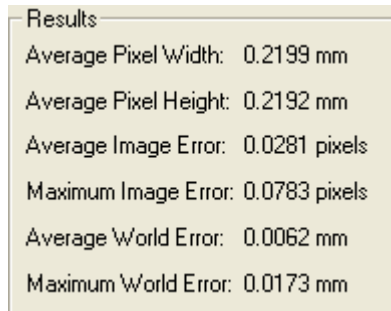

Figure 227 Calibration Results after Solving the Calibration
14. Click **Solve**. Once the calibration is complete, the **Results** frame, as illustrated in Figure 227, displays the error statistics.